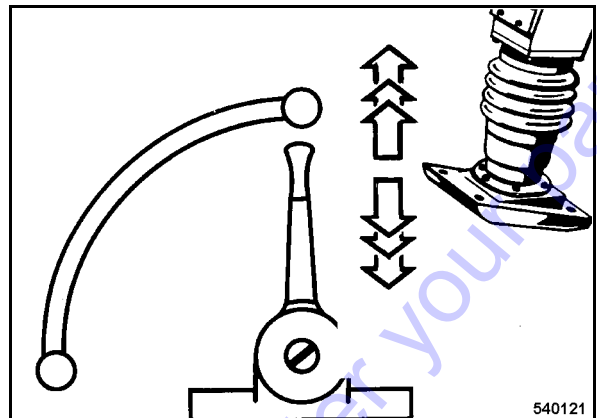

Fig. 69
- To read the maximum speed set the throttle lever to position MAX (Fig. 69).